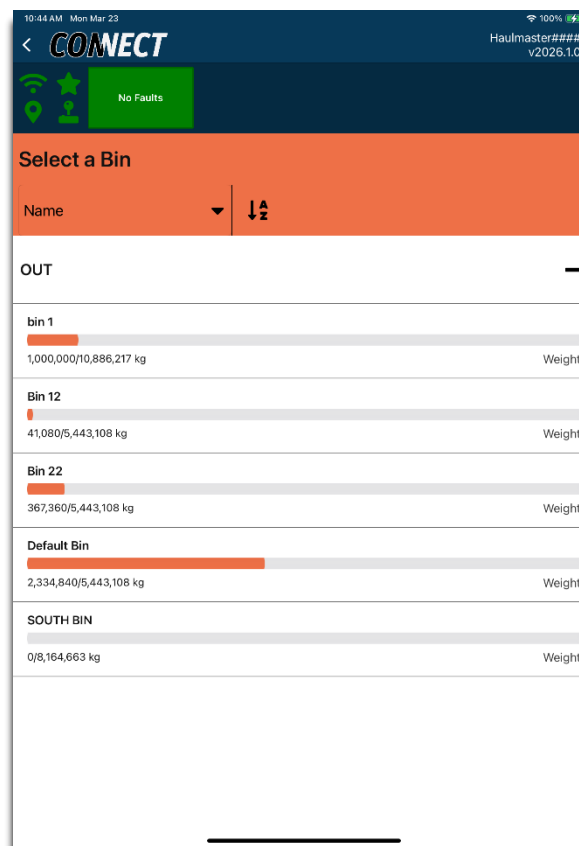

Figure 156 Select a Bin
8. Select the **destination bin** or **OUT**, shown in Figure 156.